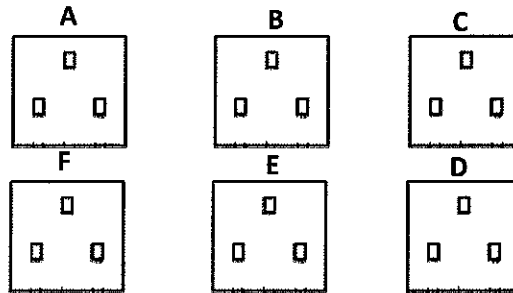

Figure A3 (b)/Rajah A3 (b)
- b) Figure A3 (b) shows the socket outlet which connects to one MCB 20A, sketch the suitable connection wiring of the figure if the socket outlet B fails but socket A,C,D,E and F still functions.